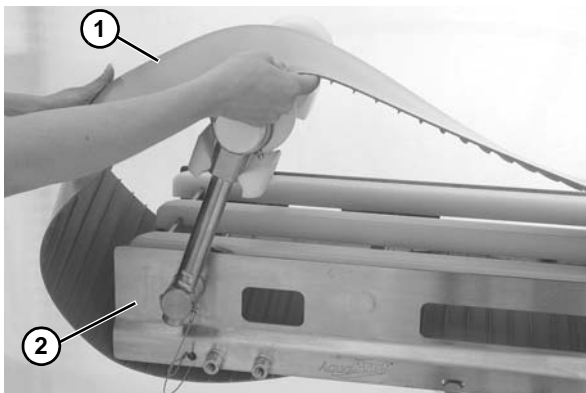

Figure 47
3. Slide the old belt (Figure 47, item 1) off the conveyor frame (Figure 47, item 2).